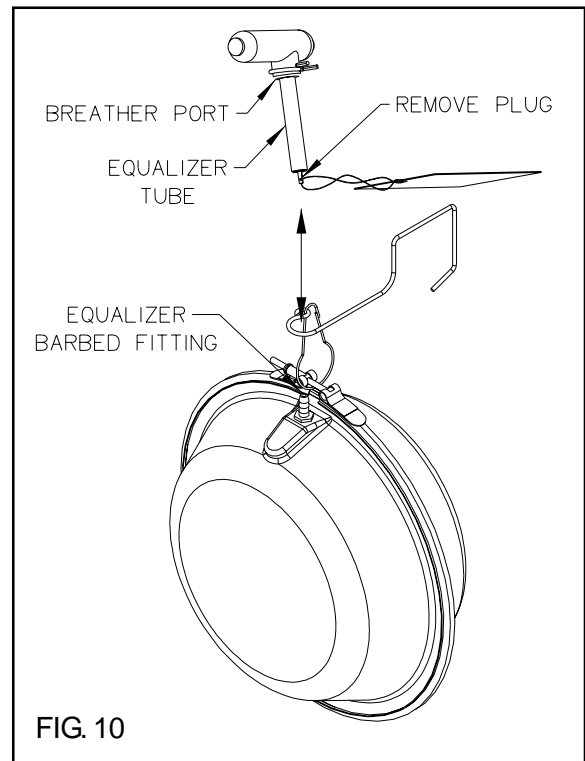

FIG. 10
14. Remove the plug from the Equalizer tube installed in the breather port and insert barbed fitting on the Equalizer (Fig. 10). Taller tanks may require the attachment of Equalizer Extension Kit PA1819G01.